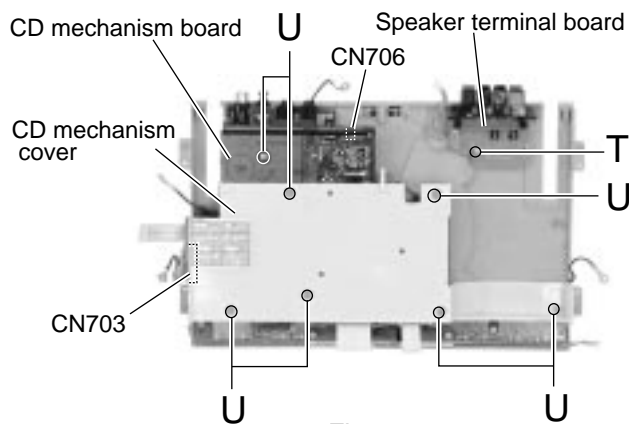

Fig.29
■Removing the speaker terminal board (See Fig.29)
■Removing the CD mechanism board / CD mechanism assembly (See Fig.29 to 34)